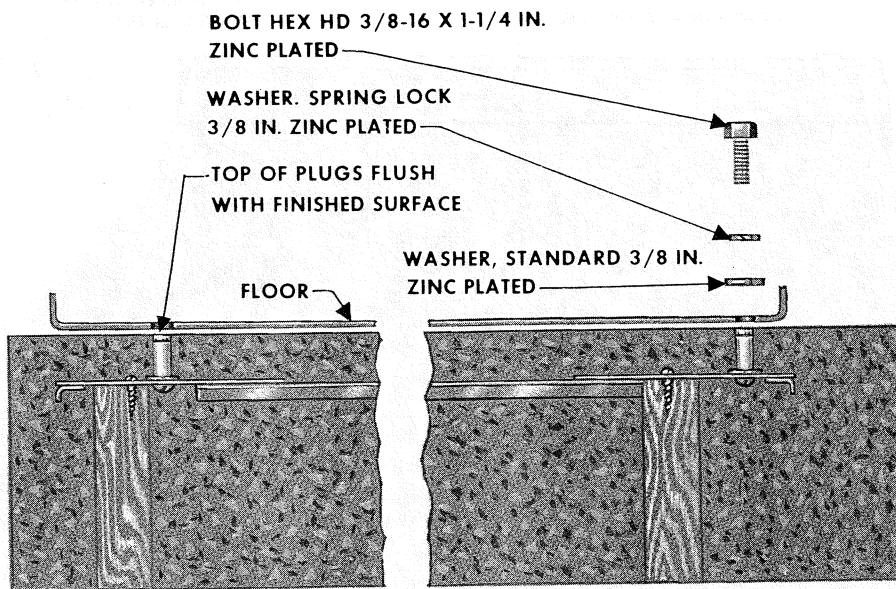

Fig. 2 — Fastening Booth to Template
(1) Position the assembled template in the 40-inch square form on wooden blocks so that the top of four mounting inserts will be flush with concrete base (Fig. 2).
- (1) With list 7 template, place fasteners in template inserts (see Fig. 2).
- (2) Without template, drill holes in concrete using the floor to mark location of holes. Use 3/8 x 2 inch expansion shields and 3/8 x 2-1/2 inch hexagonal machine bolts to anchor booth. Tighten with box wrench (KS-14962).
- (3) *Wooden platform* (at an outdoor location such as a boardwalk) drill lead hole in platform using floor to mark locations of holes. Use 5/16 x 2-1/2 inch lag screws to anchor booth.
- (4) *Indoor locations*, use an appropriate wood screw or masonry fastener.